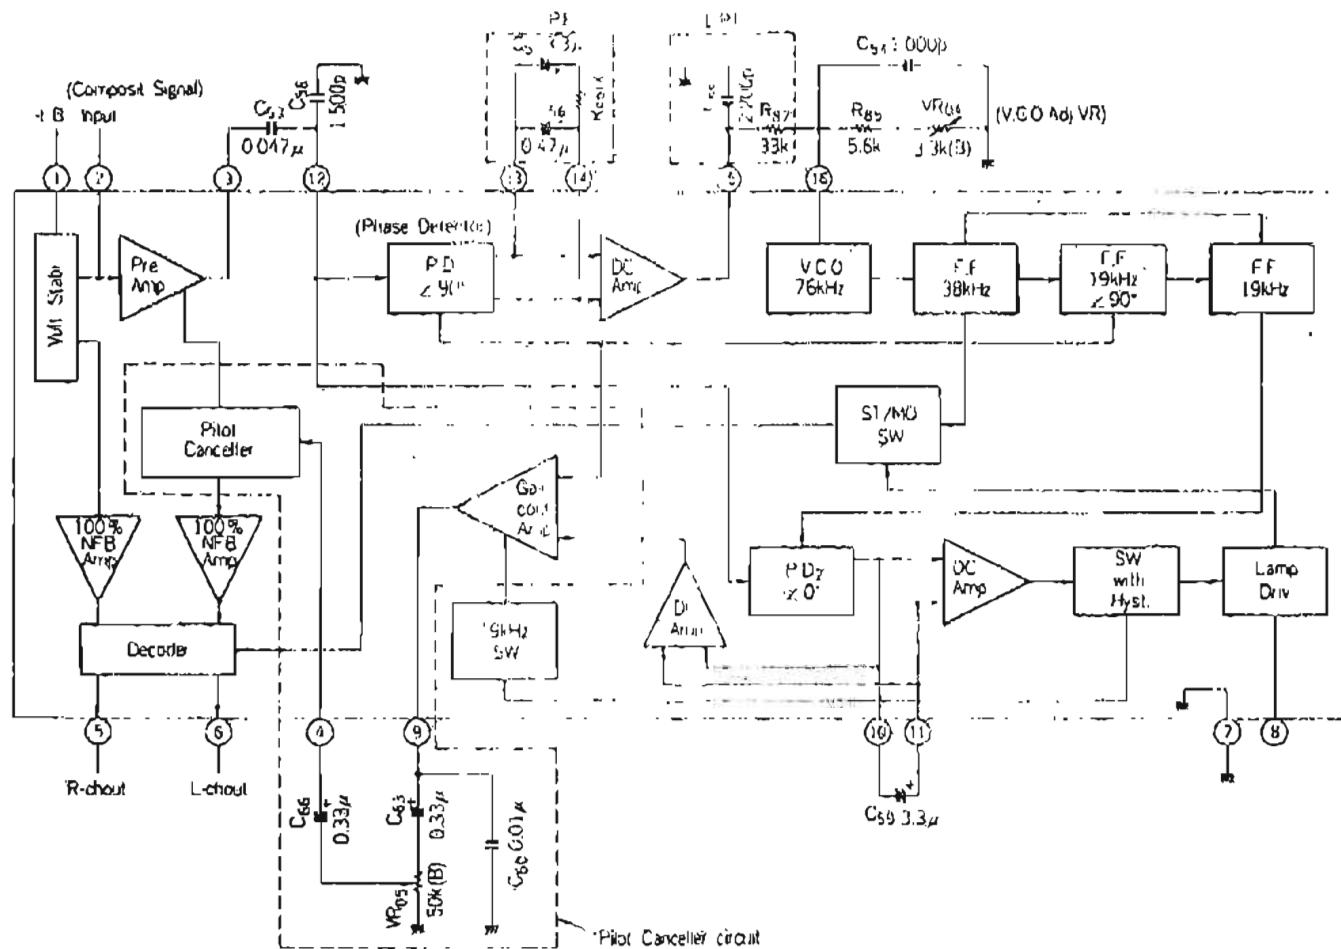

Fig. 2-4 Block Diagram of Digitally Quartz Locked System
### (2) Digitally Quartz Lock System (See Figs. 2-4, 2-5)
- Digital quartz lock system employed in this model is to lock the local oscillating frequency in every 100 kHz increment by adding lock voltage as AFC signal produced by frequency counter & D/A converter to the variable capacitance diode at local oscillator, and making a loop indicated by the large arrows in Fig. 2-4.
### (3) Display System for Received Frequency (See Fig. 2-4)
- Display System for Received Frequency consists of FM (or AM) local oscillator, prescaler, frequency counter, display tube driver, and fluorescent display tube as shown in Fig. 2-4.
(4) Display system for SIGNAL (See Fig. 2.4)
(5) Display system for TUNE (See Fig. 2-4)